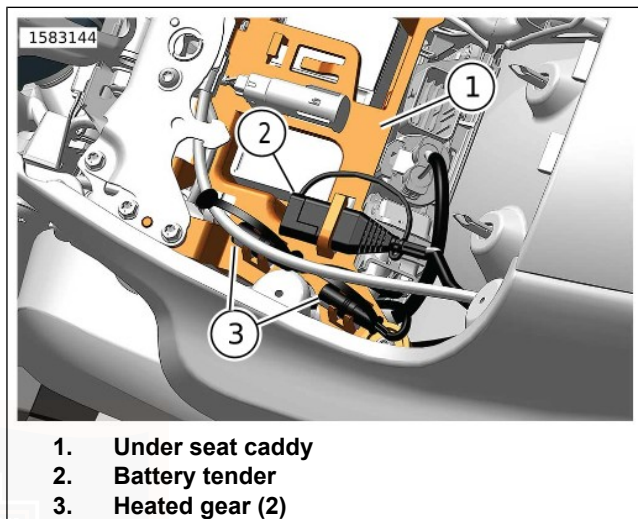

Figure 36. Under Seat
Figure 36 The heated gear connectors (3) are stored under the seat in the under seat caddy (1). When in use, heated gear connectors must be routed properly to prevent damage.
2. Figure 36 Remove the heated gear connectors (3) from storage location on under seat caddy (1).